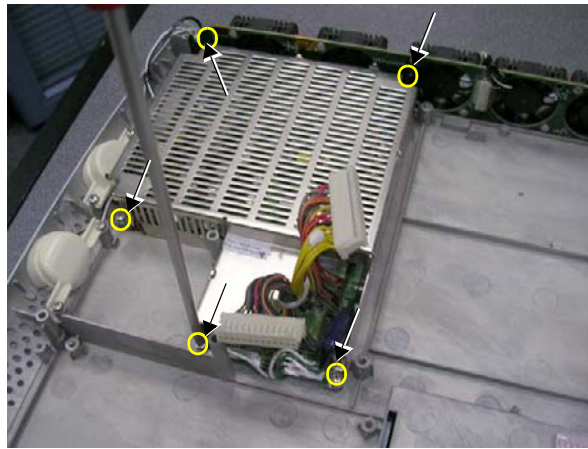

Figure 8-37 Loosening the Screws on the DC Power Supply
- 3) Loosen the five screws that secure the DC Power Supply to the Bottom Assembly, as shown in Figure 8-37 below.
- 2) Return the five screws and fasten the HVPS in position on the Bottom Assembly, as shown in Figure 8-37 on page 8-39 .